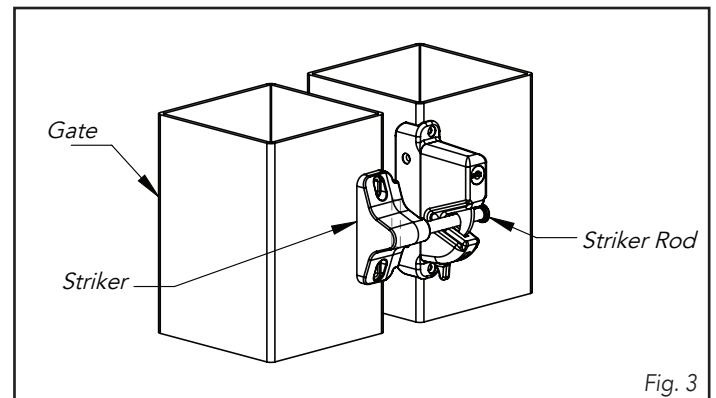

Fig. 3
3. After installing the latch assembly, position and attach the striker. With the gate closed, position the striker with the striker rod within the latch assembly, behind the latch mechanism. Mark the centerpoints of the four mounting holes, and drill appropriate pilot holes for mounting screws. Realign latch and striker, and attach to post with the supplied screws (Fig. 3).